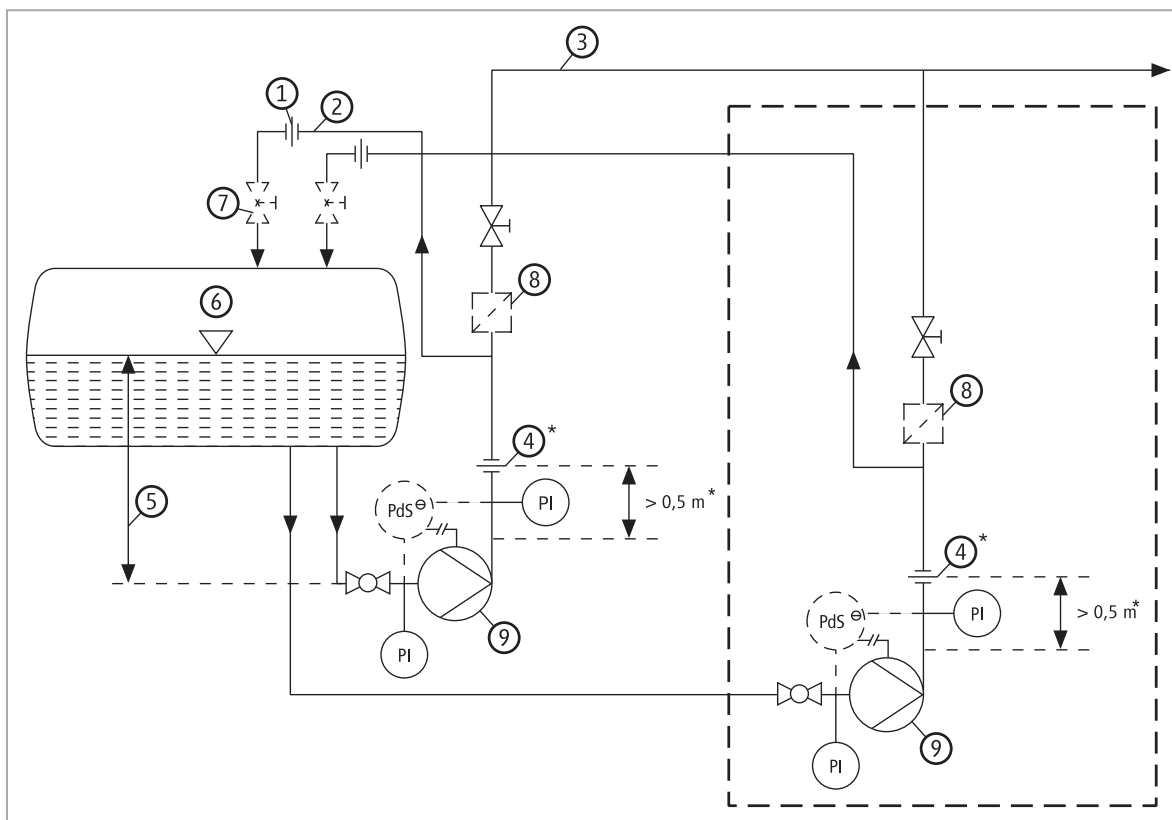

Fig. 3
Operation within the required minimum and permissible maximum flow rate can be ensured by the use of a by-pass or suitable Q_{min} and Q_{max} -orifices (pls. see Fig. 3). Instead of the Q_{max} -orifice, a differential pressure switch can be used to stop the pump if the discharge head becomes lower than the minimum permissible discharge pressure equivalent to Q_{max} . Time delay max. 10 sec.
4. During standstill, the by-pass is used as a vent line. The pump should not be started unless it is primed with liquid refrigerant. During first priming or re-starting, all parts of the pump should be in thermal equilibrium with the suction vessel. When using non-return valves at the pump discharge, note that the by-pass line must be installed before the non-return valve, to permit automatic venting (Fig. 3).
8. When two or more pumps in parallel operation serve a common discharge line (Fig. 3), a separate by-pass line with Q_{\min} -orifice must be provided for each pump unit. This is to remove the gas which arises during standstill of the pump. With this arrangement, the minimum flow is assured and does not depend on the differential head. If one pump is used as a stand-by pump, non-return valves have to be mounted in the discharge line to avoid back-flow from operating to stand-by pump. The stand-by pump should be maintained full of liquid so as to be available for operation immediately. The by-passes enable a switch-over from one pump to the other or a connection of a second pump without operation of shut-off valves.